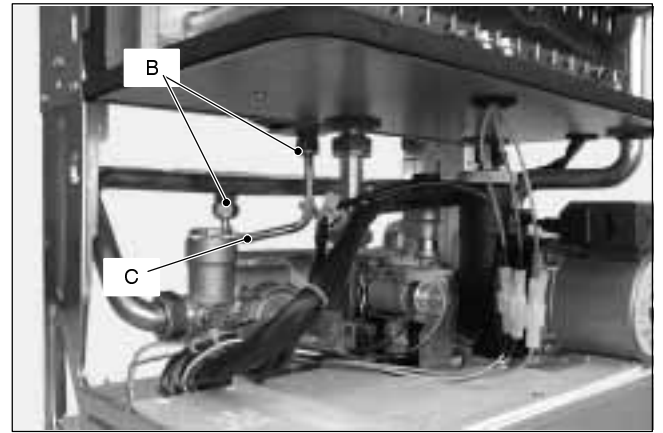

Fig. 15
- 4 Completely unscrew the two connections *B* and remove the pipe *C* (Fig. 15).